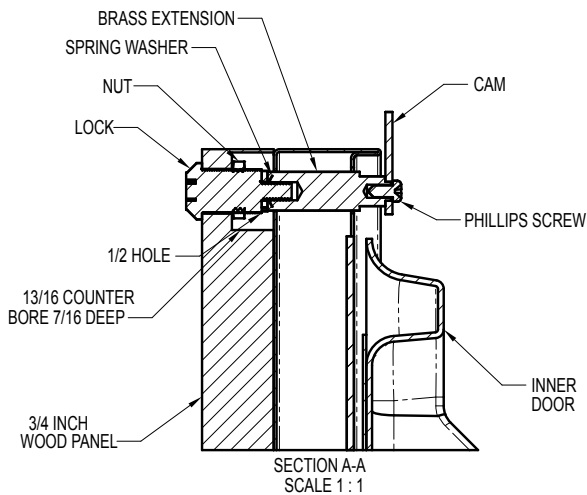

Figure 26
Two (2) lock extensions are provided with the lock. Use the longer extension for $\frac{3}{4}$ " thick integrated panels and the shorter one for $\frac{5}{8}$ " thick integrated panels. Assemble the lock extension, cam stop washer, spring washer, and set screw to the lock as shown in Figure 26 and 27.